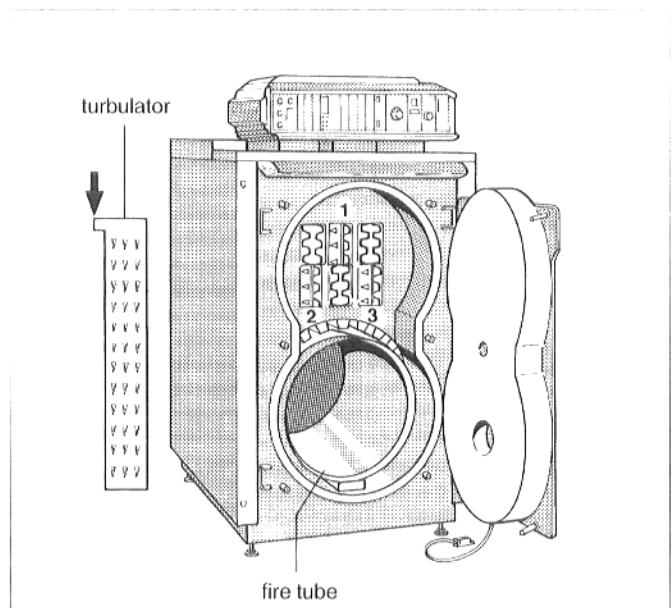

Fig. 18
- Check whether the fire tube is fitted in the combustion chamber to the stop (Figs. 18 and 19).
- Check whether turbulators are fitted to match the boiler size (Fig. 18).
For boiler sizes 95 and 145, only the pockets 1, 2 and 3 are fitted (Fig. 18).
The stop must touch the bottom (arrow - Fig. 18).
- Insert the fire tube again in the combustion chamber up to stop (Figs. 18 + 19).
- Insert the turbulators again in the downstream heating pockets. For boiler sizes 95 and 145, only pockets 1, 2 and 3 are fitted with turbulators (Fig. 18). The stop (arrow - Fig. 18) must make contact below.